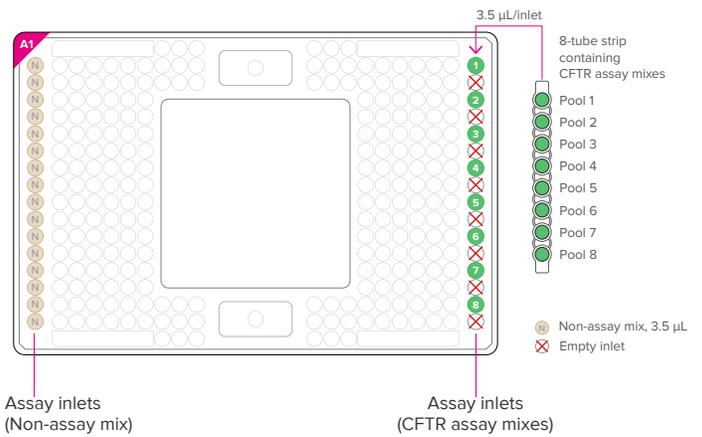

Figure 5. Assay loading map
- 6 Pipet the CFTR assay mixes and sample mixes into the LP 192.24 IFC as shown in Figure 5.
- Before pipetting reagents, maintain traceability by noting the orientation of the A1 corner, assay inlets, and sample inlets, as shown in Figure 5.